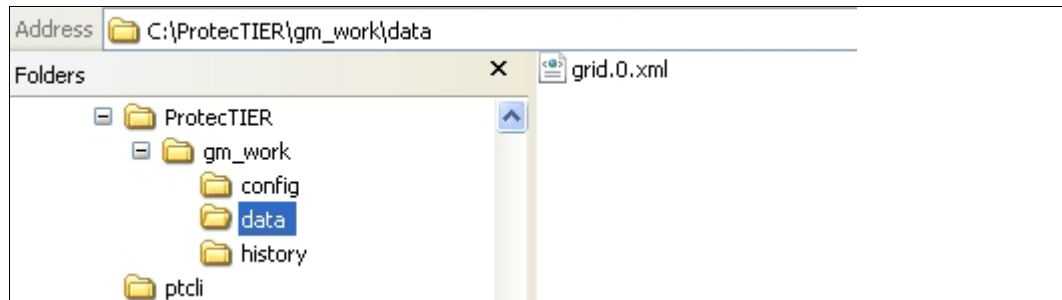

Figure 11-26 Folder structure for extracted backup .zip file
**Note:** If you already extracted the compressed backup file, there is a folder structure already, as shown in Figure 11-26 on page 604, including the `/gm_work` and the `/data` folders, and you can select the grid XML file instead.